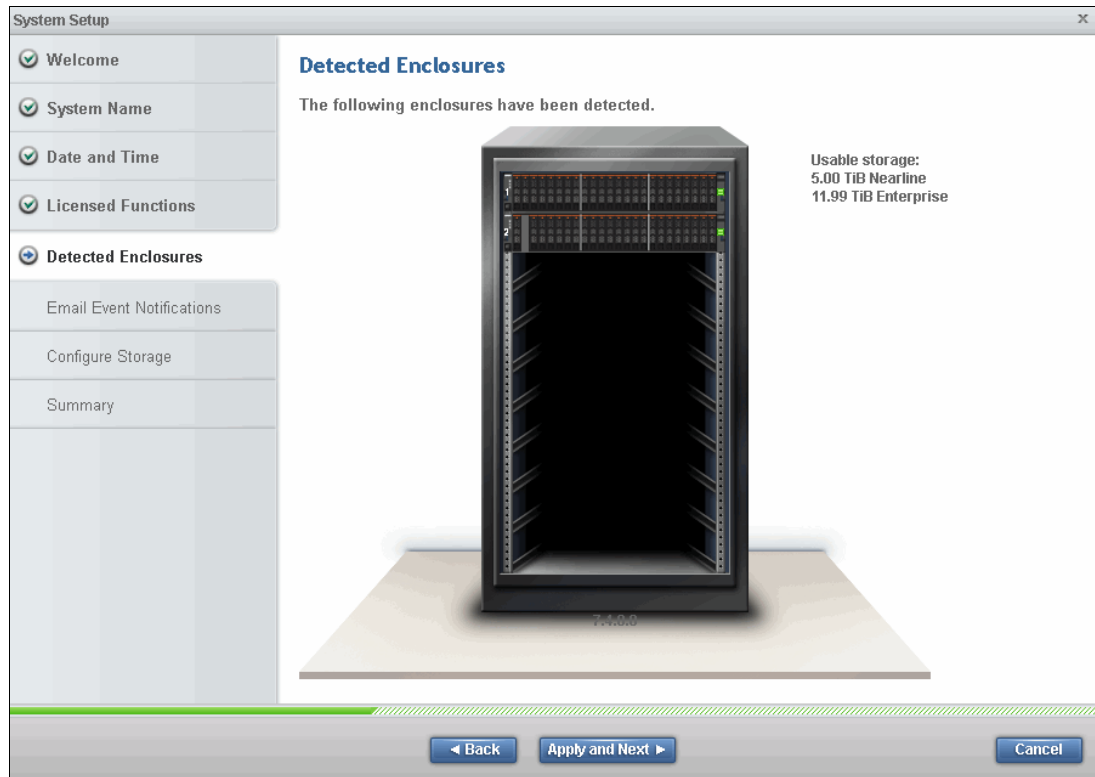

Figure 2-26 Setup wizard: Verify the detected hardware
8. The configuration wizard continues with the hardware configuration. Verify the hardware, as shown in Figure 2-26.